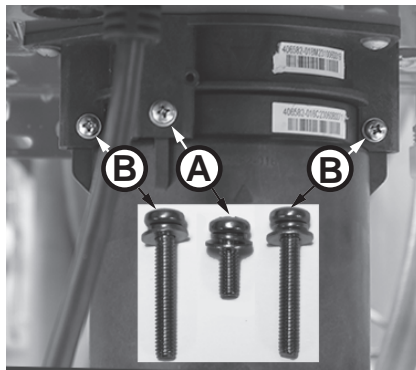

Figure 172 - Identify cartridge screws
- 6 Locate the three (3) screws securing the X3®/Bypass cartridge as shown in Figure 172. Remove the (A) M4-12mm screw and the two (B) M4-25mm screws from cartridge. Place screws aside in a safe place for reinstallation.